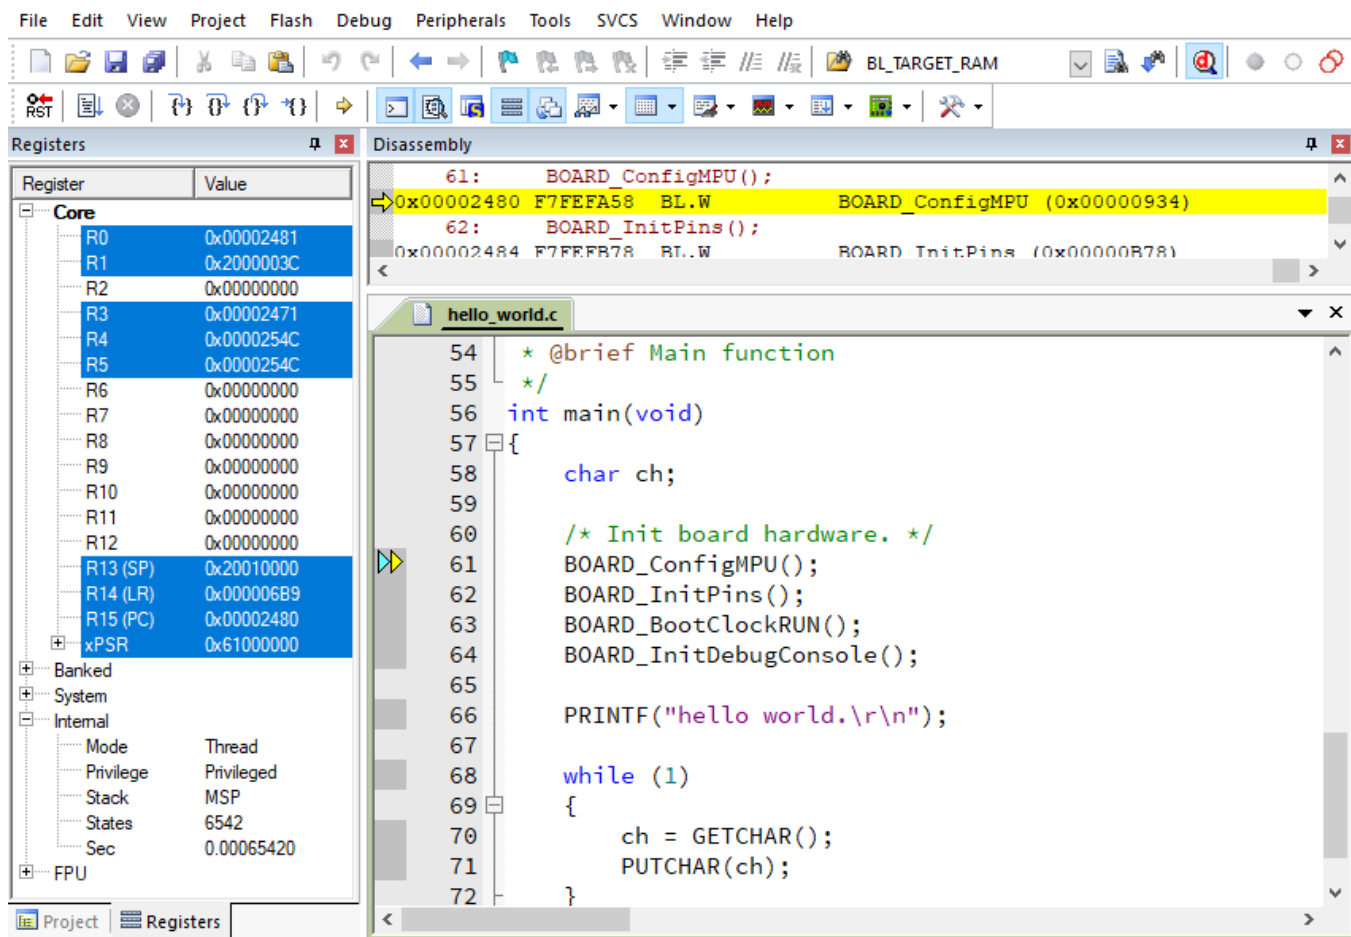

Figure 12. Stop at `main()` when run debugging
4. To debug the application, click **load** (or press the F8 key). Then, click the **Start/Stop Debug Session** button, highlighted in red in Figure 12. If using **J-Link** as the debugger, click **Project option > Debug > Settings > Debug > Port**, and select **SW**.